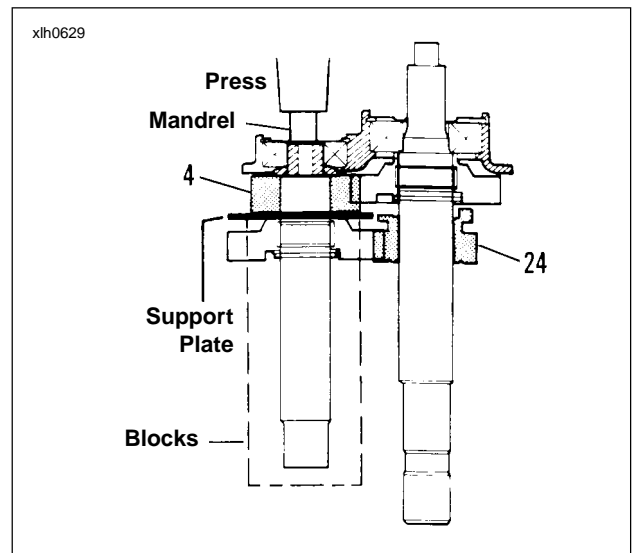

Figure 6-39.
7. See Figure 6-39. Place COUNTERSHAFT GEAR SUPPORT PLATE (Part No. HD-37404) under countershaft 4th gear (4). Place assembly on press with suitable metal blocks under the support plate. Place a socket or mandrel, smaller than inside diameter of bearing, and press countershaft free of access cover. Slide mainshaft 1st gear (24) off mainshaft.